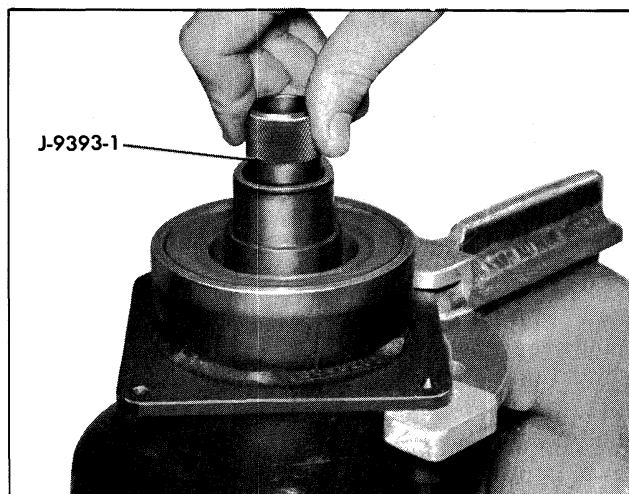

Fig. 5-38 Seating Seal Seat Retainer
11. Replace seal seat retainer (snap ring) so flat surface of ring contacts seal seat, using J-9393-1 to snap retainer in place (Fig. 5-38).